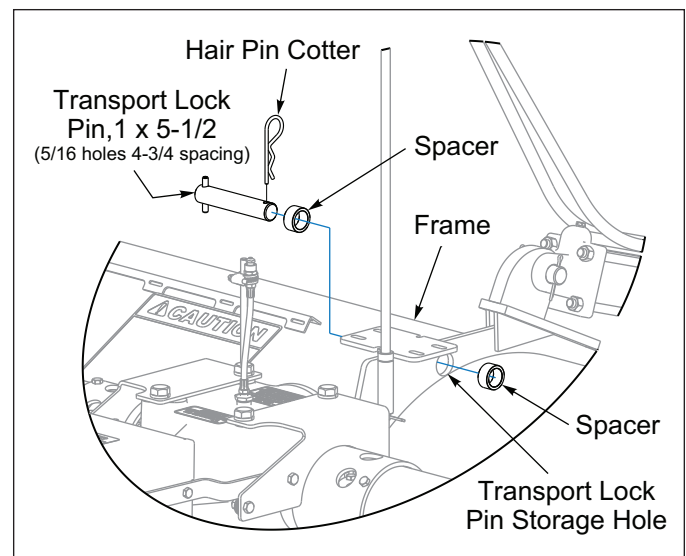

Figure 3-6: Transport Lock Stored
13. Fully raise the Shredder to disengage the Transport Lock. Remove the Transport Lock Pin, Spacers and Hair Pin Cotter. Place the Spacers on the Transport Lock Pin and insert the Pin in the Frame Center Plate Hole which is the Transport Lock Pin Storage Position. Secure with Hair Pin Cotter. **See Figure 3-6.**
3. If the Transport Lock is engaged, raise the Shredder and disengage the Transport Lock. **See Figure 3-6.**
3. Place the Spacers on the Transport Lock Pin and insert the Pin in the Frame Center Plate Hole which is the Transport Lock Pin Storage Position. Secure with Hair Pin Cotter. **See Figure 3-6.**
2. Remove the Transport Lock Pin, Spacers and Hair Pin Cotter from its Storage Position in the Frame Center Plate. **See Figure 3-6.**